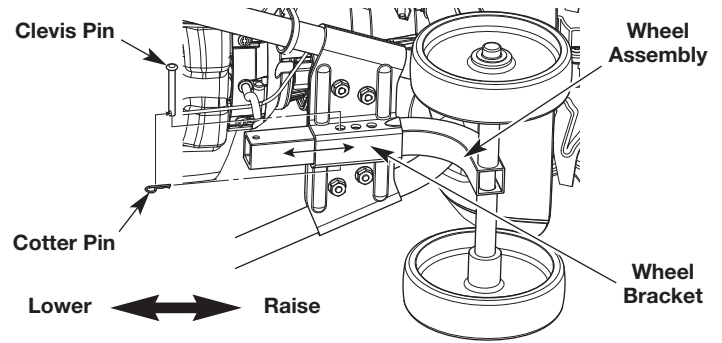

Fig. 1
1. Set the unit on its side (Fig. 1).
2. Insert the wheel assembly into the wheel bracket (Fig. 1).
3. Insert the clevis pin through the wheel bracket and wheel assembly and lock it in place with the cotter pin (Fig. 1).
2. Remove the cotter pin and the clevis pin from the wheel bracket and wheel assembly (Fig. 1).
4. Insert the clevis pin through the wheel bracket and assembly and lock it in place with the cotter pin (Fig. 1).